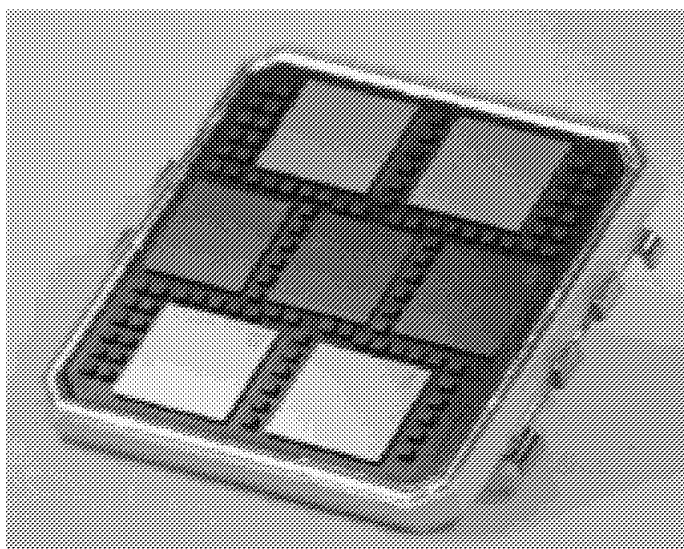

Figure 3. PowerPC AS A30 Microprocessor
As shown in the Figure 3, the A30 consists of seven multi-chip modules (MCM) with a total of over 25 million transistors. One of the seven chips on the MCM is an I/O control unit. The remaining six chips are semi-custom designs in 0.8 micron BiCMOS technology and include a Processing Unit (PU) chip, a Floating Point Unit (FPU), and four copies of Main Storage Control Units (MSCU). The processor implementation includes a 4-way superscalar pipeline, 64-bit internal data flow, 72-bit virtual addressing, an 8KB level 0 (L0) instruction cache on the PU chip, and a 256KB level 1 (L1) combined instruction and data cache on the MSCU chips.